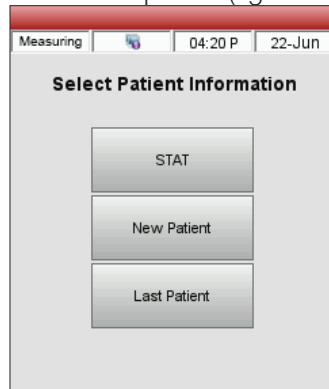

Figure 17. Measurement > Select Patient Information screen
- Tap the **STAT**, **New Patient** or **Last Patient** button (figure 17).